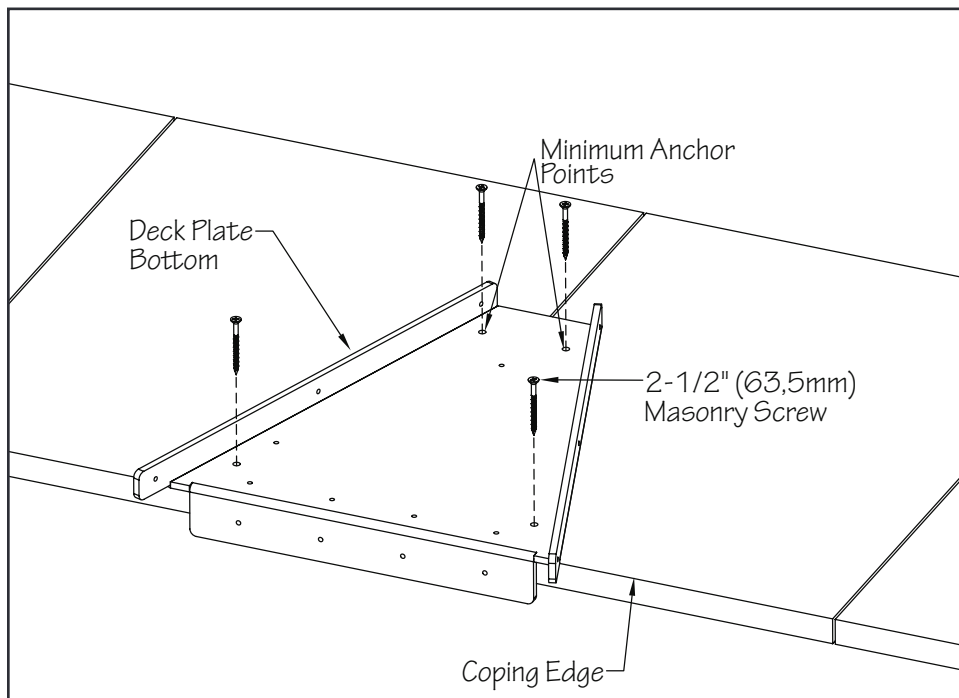

Fig. 8.2
8.3 Use the provided 5/32" (4mm) drill bit to drill the anchor holes into the pool deck approximately 2" (51mm) deep through the two holes in the rear of the plate. While these two anchor points are enough to secure the Fastlane Pro to the pool deck, additional anchor locations at the front of the plate should be used when possible. Secure plate with provided masonry screws (Fig. 8.2).